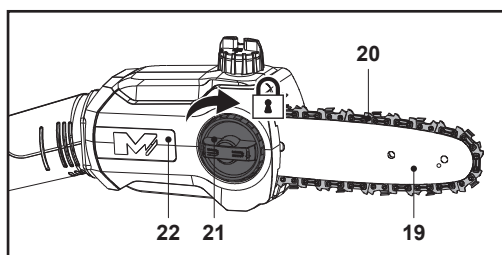

Fig. 10
9. Refit the chain saw cover (22) and slightly tighten the locking wheel (21) clockwise (Fig. 10). Do not tighten the locking wheel (21) completely as saw chain tensioning is required first.